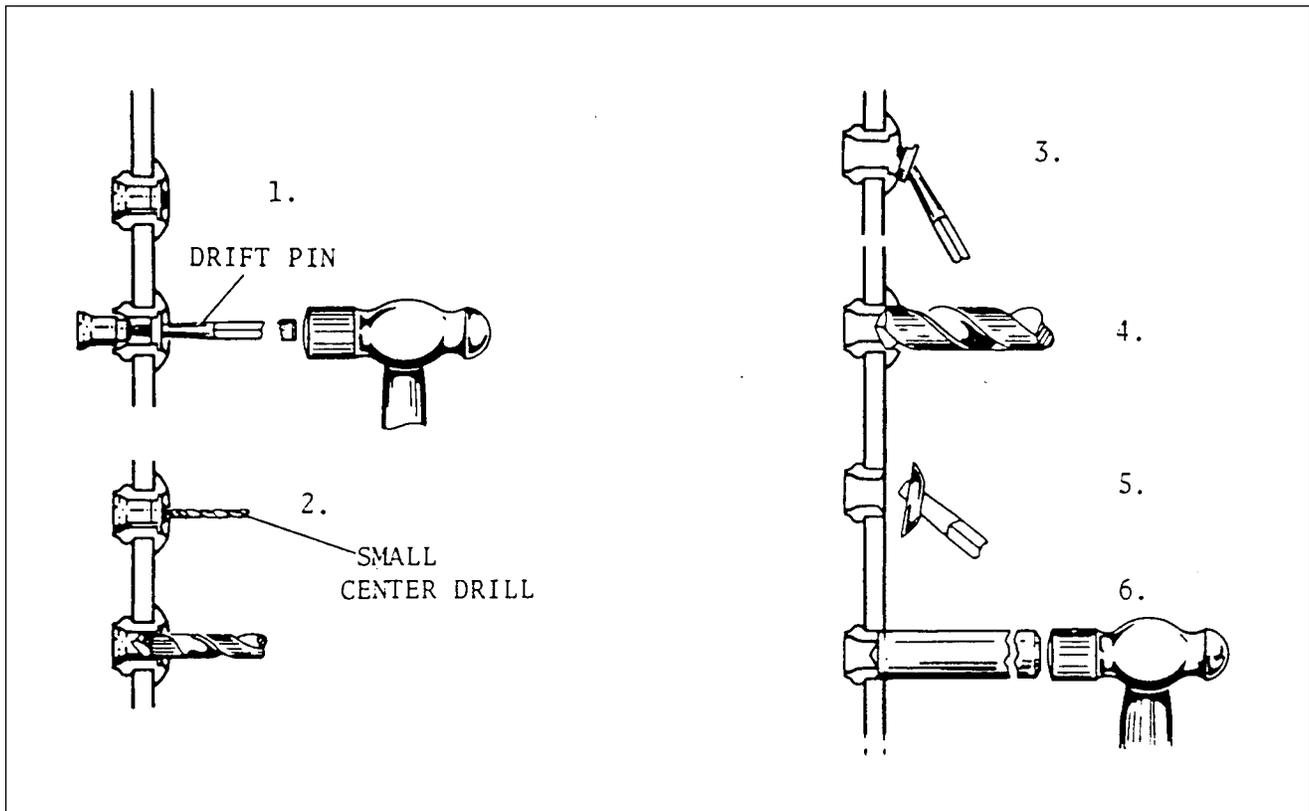

Figure 20-3. Cherrylock Rivet Removal
**REMOVAL CHERRYLOCK RIVETS** (Refer to figure 20-3)